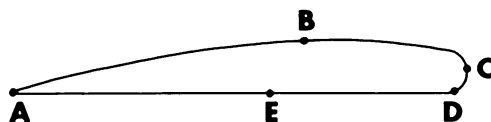

Figure 1C.—Cross section of a typical subsonic airfoil.
39. Most of the lift developed by the airfoil shown in figure 1C is due to the fact that dynamic pressure is less than static pressure around point
40. According to Bernoulli's principle, the velocity of the air flow around the airfoil shown in figure 1C is maximum in the region around point
41. When an airfoil of the type shown in figure 1C is in a stalled condition, the air ceases to flow smoothly between points